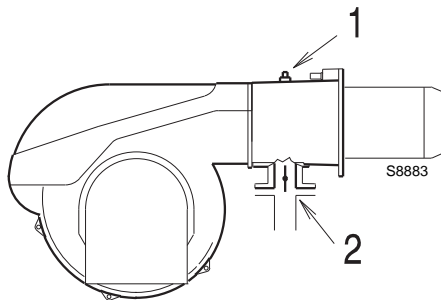

Fig. 30
Gas pressure measured at the test point 1) (Fig. 30), with:
Pressure loss at gas butterfly valve 2) (Fig. 30) with maximum opening: 90°.
- subtract the combustion chamber pressure from the gas pressure measured at test point 1) (Fig. 30).
To calculate the required gas pressure at test point 1) (Fig. 30), set the maximum output required from the burner operation:
- Read off the pressure at test point 1) (Fig. 30) on the right in column 1.
pressure required at test point 1) (Fig. 30).